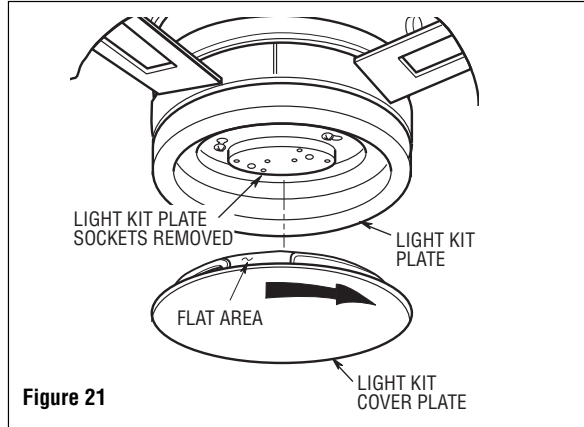

Figure 21
4. Carefully tuck blue and white wires from motor up into the fan motor/housing assembly (Figure 21).
5. Place the cover plate onto the fan motor/housing aligning the three flat areas on the top flange of the cover plate with the three pins on the inside of the fan motor/housing (Figure 21). Then turn the cover plate clockwise until it stops turning.